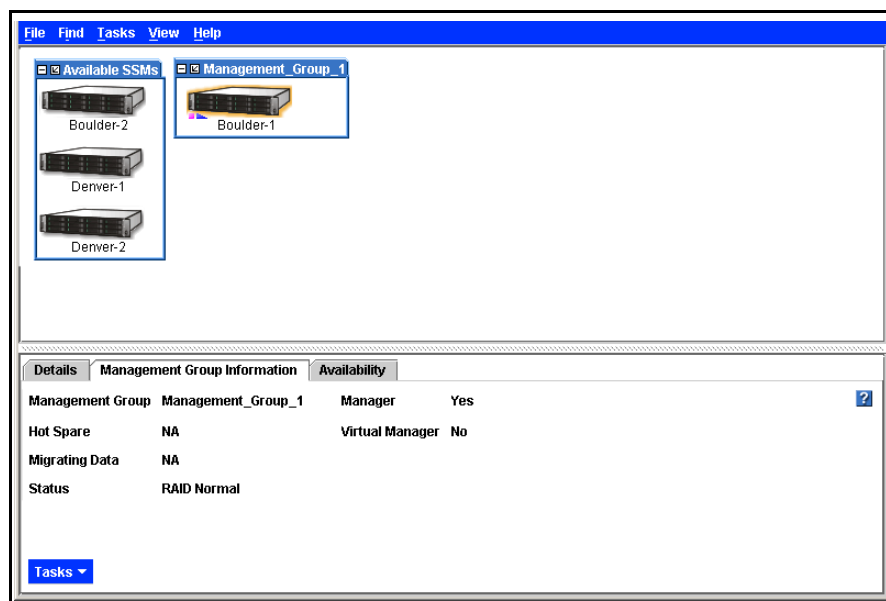

Figure 136. New Management Group with One SSM
- Click OK. The SSM joins the management group and starts the manager. The Console displays the newly created management group, shown in Figure 136.